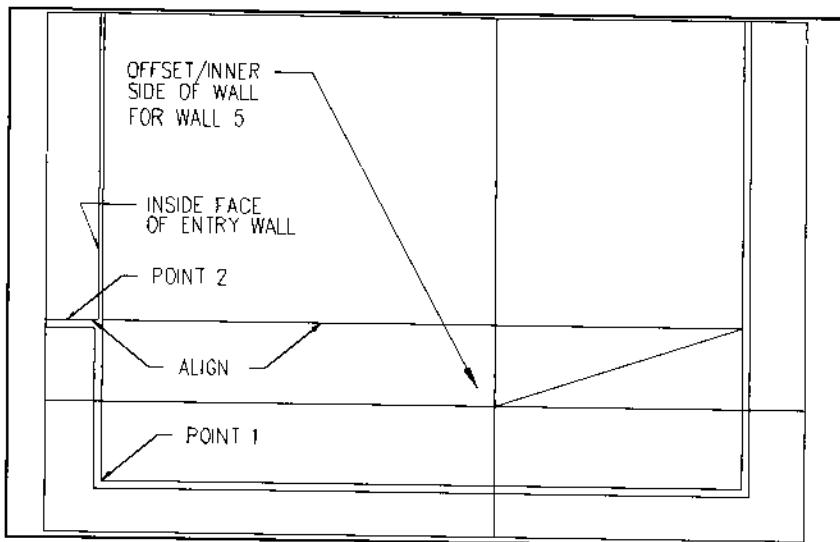

Figure 26.
1. Press Enter again to select the Continuous Wall command and begin at the inside lower left corner of OFFICE-2 as shown in Figure 26.
- > Pick base point <last>: INT of [POINT 1, inside lower left corner of OFFICE-2 as shown in Figure 26]
- > Enter Y VERTICAL change <0>: PER to [POINT 2, inside face of front entry wall as shown in Figure 26]
- > Pick offset/inner side of wall: **[pick below the wall line as shown in Figure 26]**